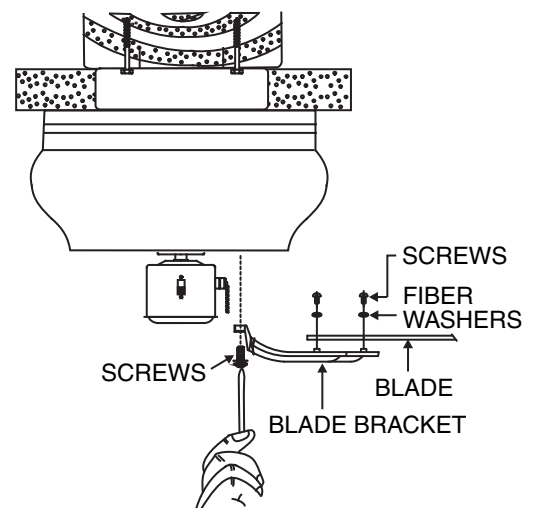

FIGURE 11
1. Attach the blade to the blade bracket using the screws and fiber washers as shown in Figure 11. Start screw into bracket. Repeat for the two remaining screws.
3. Fasten blade assembly to motor using the screws supplied. (Fig. 11)